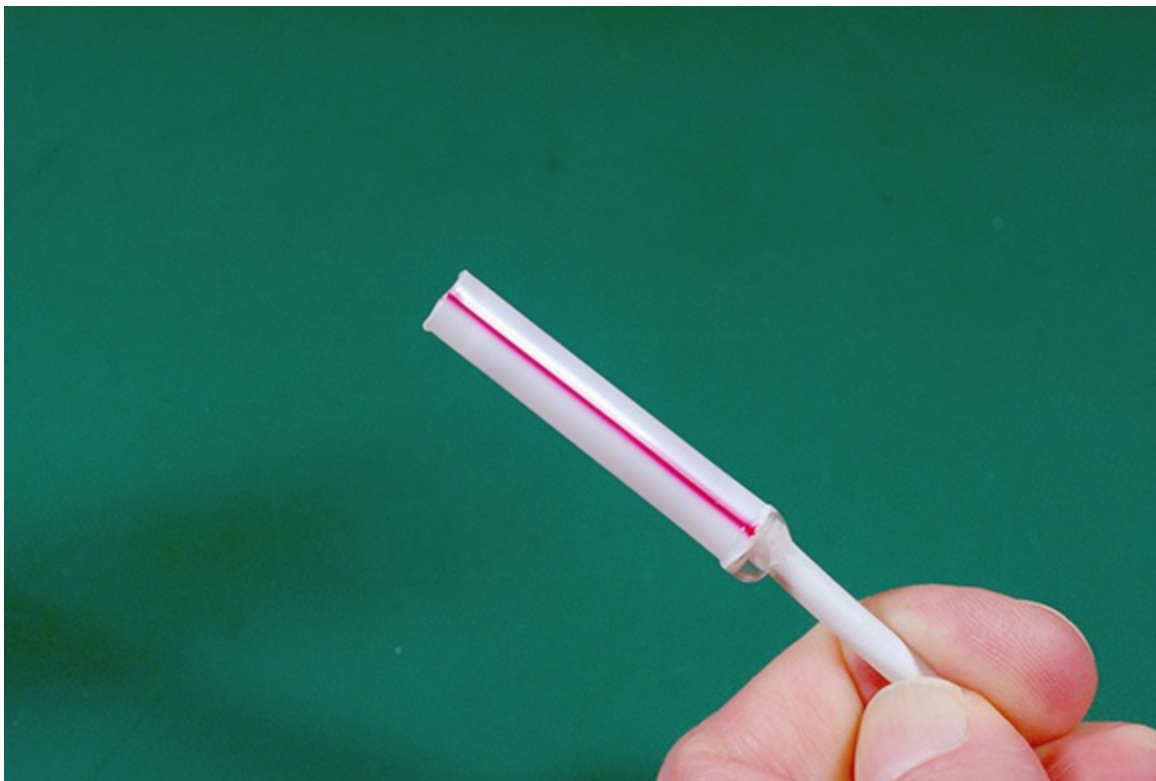

Figure 12-10: Finishing up your sensors for a watertight seal.
- 12. Turn the sensor over, and apply glue to the area where the cable enters the straw, again making sure you have a watertight seal, as shown in Figure 12-10.**